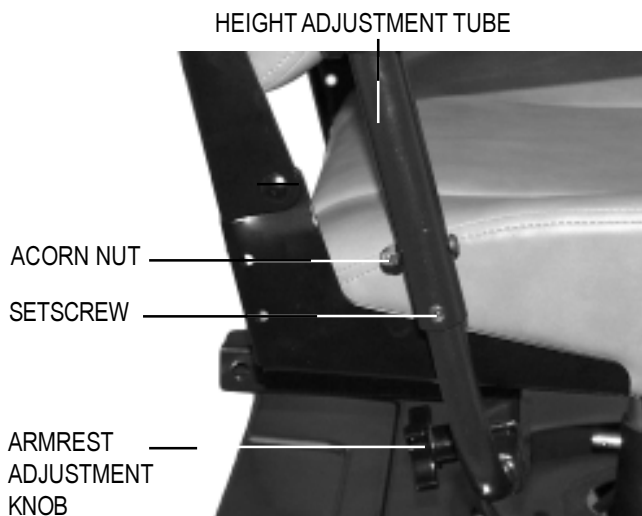

FIGURE 16. ARMREST HEIGHT ADJUSTMENT
1. Loosen the armrest adjustment knobs at the back of the seat frame. See figures 16 and 17.